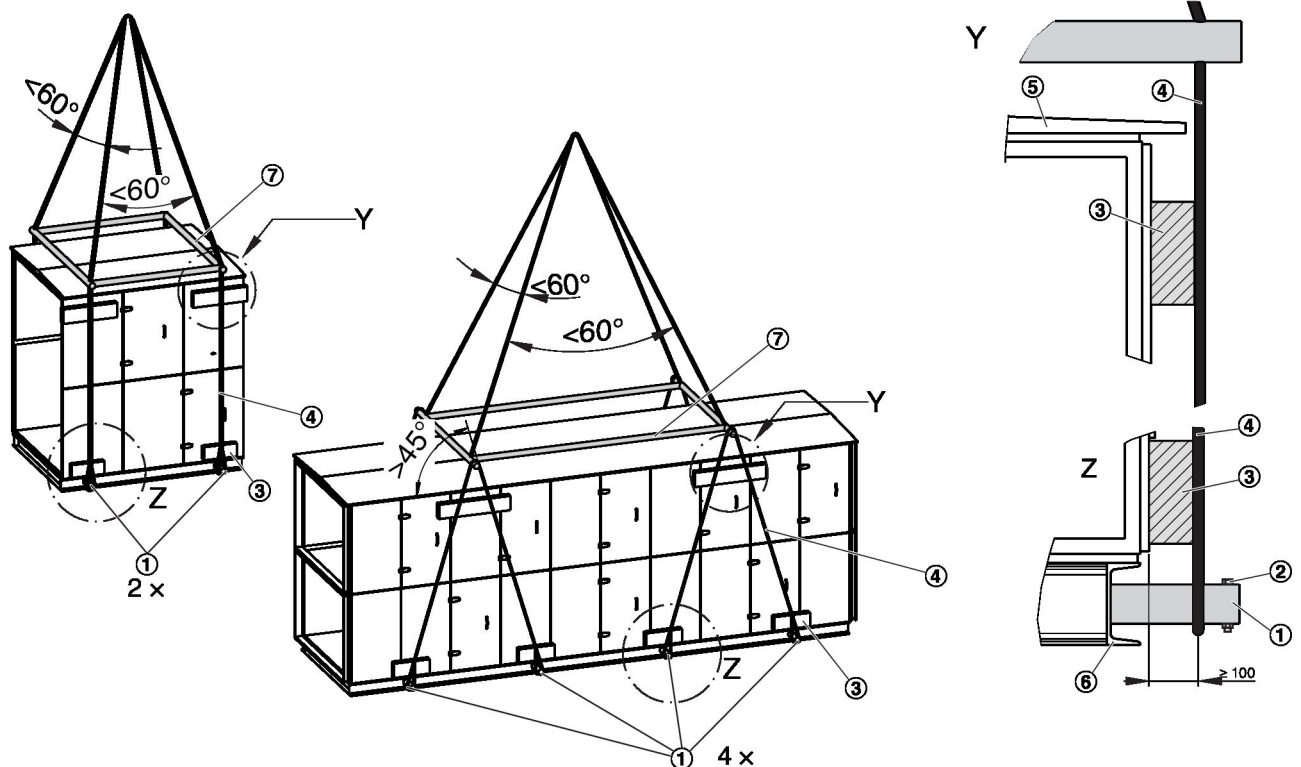

Fig. 9: Lashing points with two or four transport tubes
The number of drilled holes in the base frame (Fig. 9 /6) indicates the number of transport tubes (Fig. 9 /1) to be used.
- Select the lashing points based on the number of transport tubes you use, Fig. 9
1. ▶ Remove the plugs from the drilled holes in the base frame (Fig. 9 /6) of the AHU casing unit.
2. ▶ Push transport tubes (Fig. 9 /1) through the drilled holes in the base frame.
Secure the transport tubes with screws (Fig. 9 /2).
3. ▶ Place the slings (Fig. 9 /4) around the ends of the transport tubes.
Position slings between the base frame (Fig. 9 /6) and the screws (Fig. 9 /2).
Protect the edges with wood blocks (Fig. 9 /3). If a unit with a roof (Fig. 9 /5) is to be moved, use wood blocks that are thick enough to provide a distance of 100 mm between the sling and the casing unit.
Spread the slings near the roof with a suitable device (Fig. 9 /7), e.g. a lifting beam.